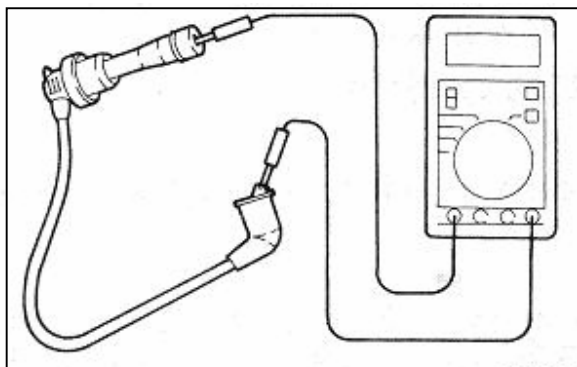

Fig. 9-52
3) Resistive cord check (Fig.9-52)